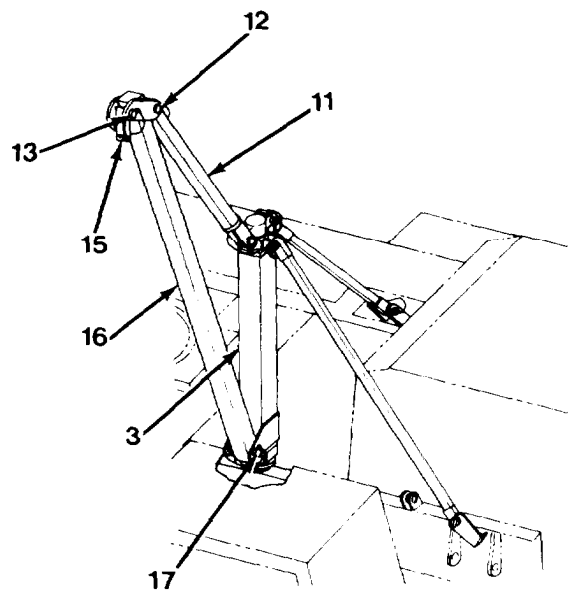

Figure 5-12. *Assembling the Mast*
5. Install lift arm (16, Figure 5-12) as follows:
- c. Remove lift arm (16) and pins (17) and (18) from storage brackets. Place pin (18) in tool box for future use.
- d. With sheave bracket (15) down, connect lift arm (16) to base of mast (3) with pin (17, Figure 5-12).